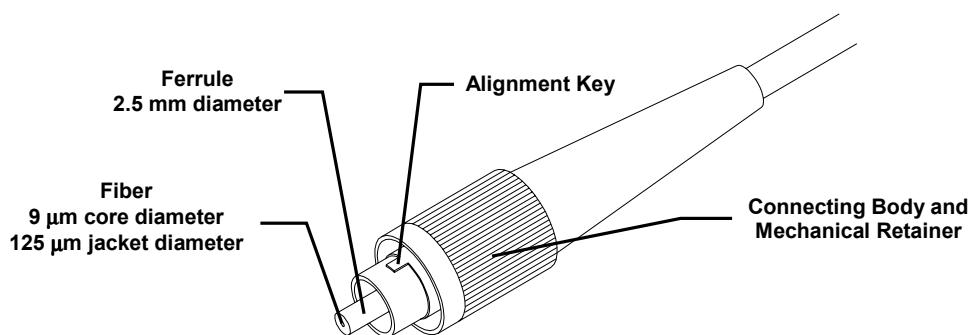

Figure 3.2: Basic Components of an FC-PC Fiber-Optic Connector
- 2 Connect your fiber-optic cable to the pre-aligned FC/PC fiber-optic connector on the instrument's front panel. Make certain that the alignment key on the fiber-optic cable's connector (Figure 3.2) is properly seated in the slot of the input connector.